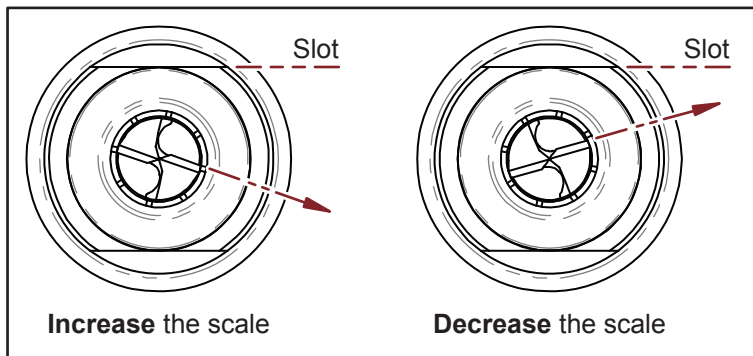

Fig. 7-6
- ✘ If the drill's cutting edge is not parallel to the slot of clamping nut, adjust the scale and reposition the drill. (Fig. 7-6)